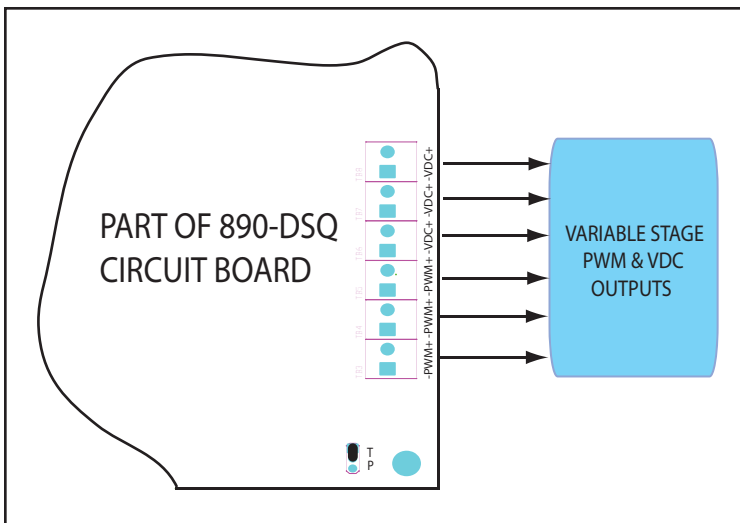

Figure 4
- Refer to **Figure 4, Location of 890-DSQ Sequencer's Variable Stage Output**, below, for the location of the sequencer's variable stage's PWM and VDC output terminals.